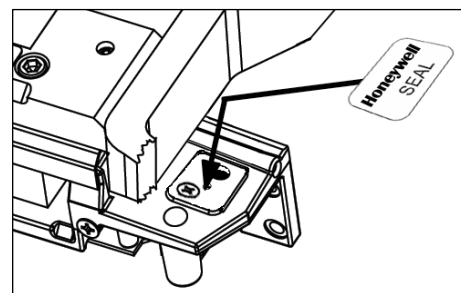

Figure 57.
2. Apply the adhesive calibration security seal over the calibration button access hole (see *Figure 57*).